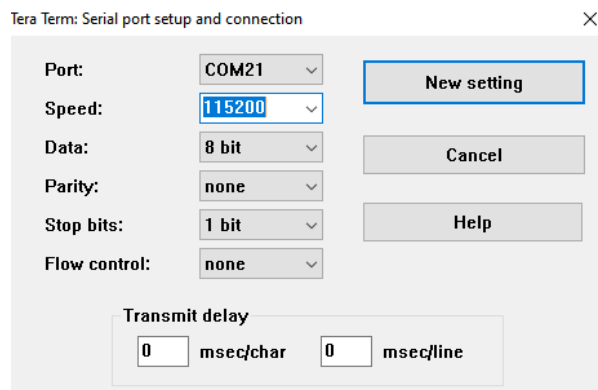

Figure 7.4. Tera Term Serial Port Setup and Connection
7. Select the rest of the options based on Figure 7.4.